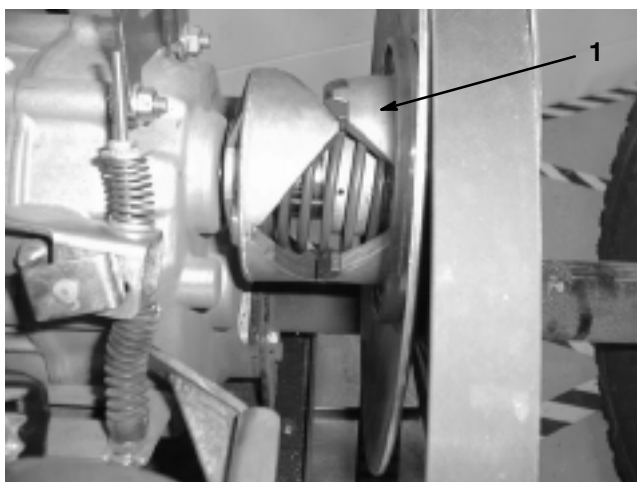

Figure 25
3. Ensure that the transaxle is locked in neutral by rotating the secondary clutch (Fig. 25). The tires should not rotate. If tire rotation does occur, repeat step 2 until the tires no longer rotate.